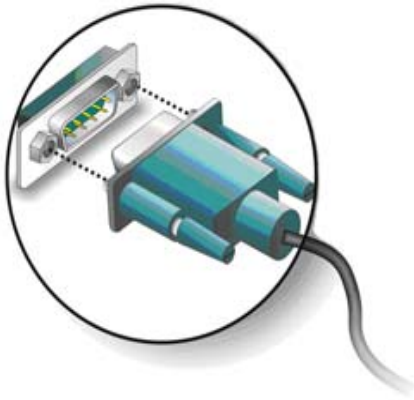

Figure 5-14: Serial Device Connector
- Step 2:** **Insert the serial connector.** Insert the DB-9 connector of a serial device into the DB-9 connector on the external peripheral interface. See **Figure 5-14**.